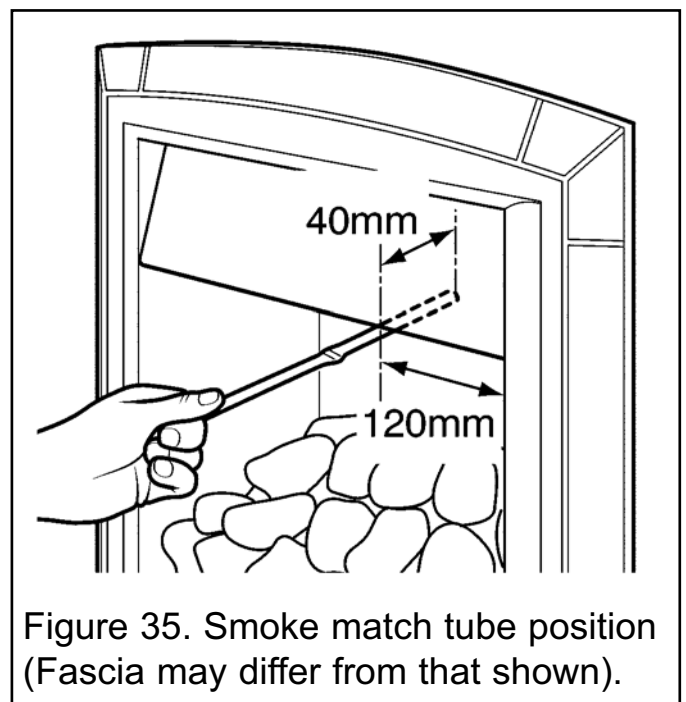

Figure 35. Smoke match tube position (Fascia may differ from that shown).
4. The smoke match should be placed horizontally into the hotbox at the right hand side (See figure 35).